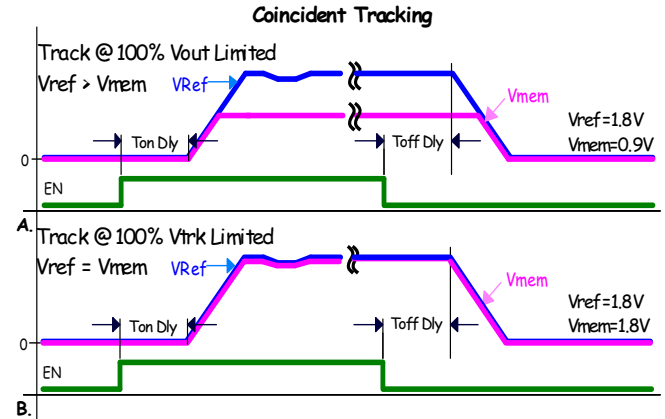

FIGURE 22. COINCIDENT TRACKING
- Track at 100% V_{OUT} limited. Member rail tracks the reference rail and stops when the member reaches its target voltage Figure 22 \(A\).
- Track at 100% VTRK limited. Member rail tracks the reference at the instantaneous voltage value applied to the VTRK pin Figure 22 \(B\).
The configuration settings for Figures 22 and 23 are shown in Tables 11 through 14. In each case the reference and member rise times are set to the same value.
TABLE 11. TRACKING CONFIGURATION (Figure 22 (A))
TABLE 12. TRACKING CONFIGURATION (Figure 22 (B))